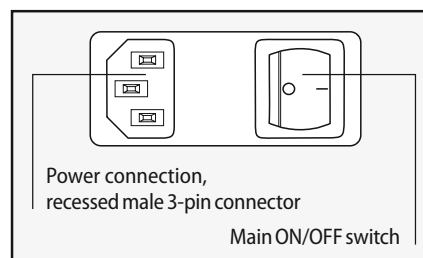

Figure 1.5: Power connection
The power connection module (see Figure 1.5) is located at the rear of the instrument. Viewed from behind, the connection consists of two sections. The left section is the recessed male 3-pin connector to which the power cord is attached. The right section is the main ON/OFF switch. When positioned to the left, the switch is 'OFF' (O). When positioned to the right, the switch is 'ON' (I).
Connect the instrument to an uninterruptible power supply using the supplied power cord. Switch on the instrument by using the main ON/OFF switch (see Figure 1.5) located on the right hand back panel of the instrument.